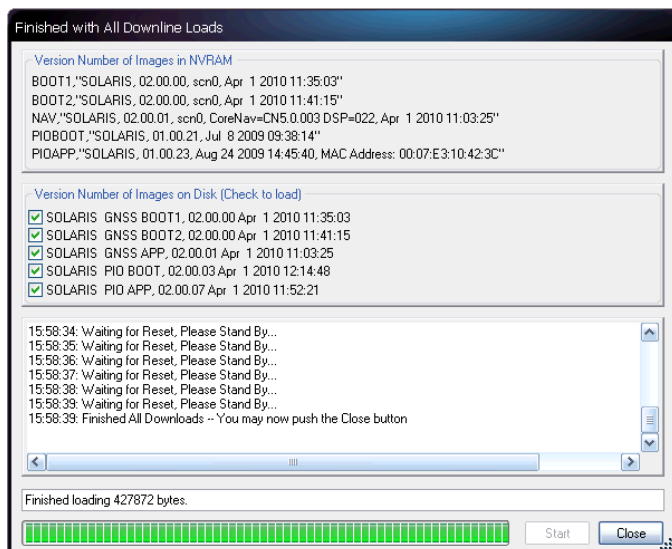

Figure 18: Finished with All Downline Loads
35. Once the firmware files are uploaded, the *Finished with All Downline Loads* dialog box is displayed (see Figure 18).